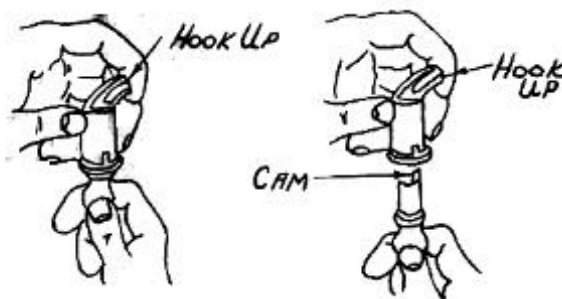

Figure 15--Locker Box Lock Details
2. Hold lock as shown in Figure 15. Lift up the hook and turn the key to the right. Pull out the cylinder.
1. Hold the lock in the same manner as shown in Figure 15. With the key in the cylinder, line up the cam with the front of the hook.